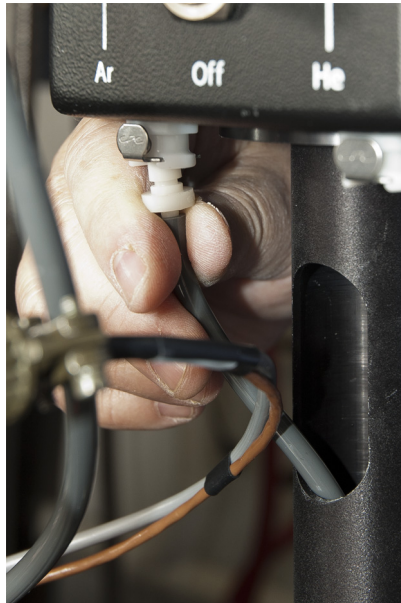

FIGURE 3-31 *Attaching the coupler to the corresponding gas inlet on the sample space gas handler*
7. Attach the other end of the coupler to the corresponding He and/or Ar gas inlets on the sample space gas handler (FIGURE 3-31).